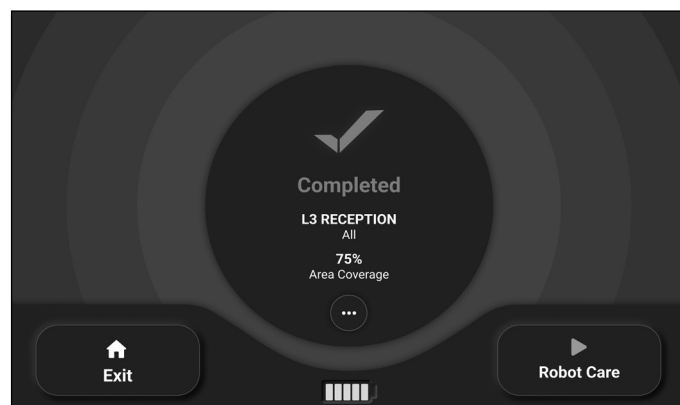

Figure 44
5. When cleaning is completed (**Fig. 44**), click on 'Robot Care' to watch the daily maintenance steps.